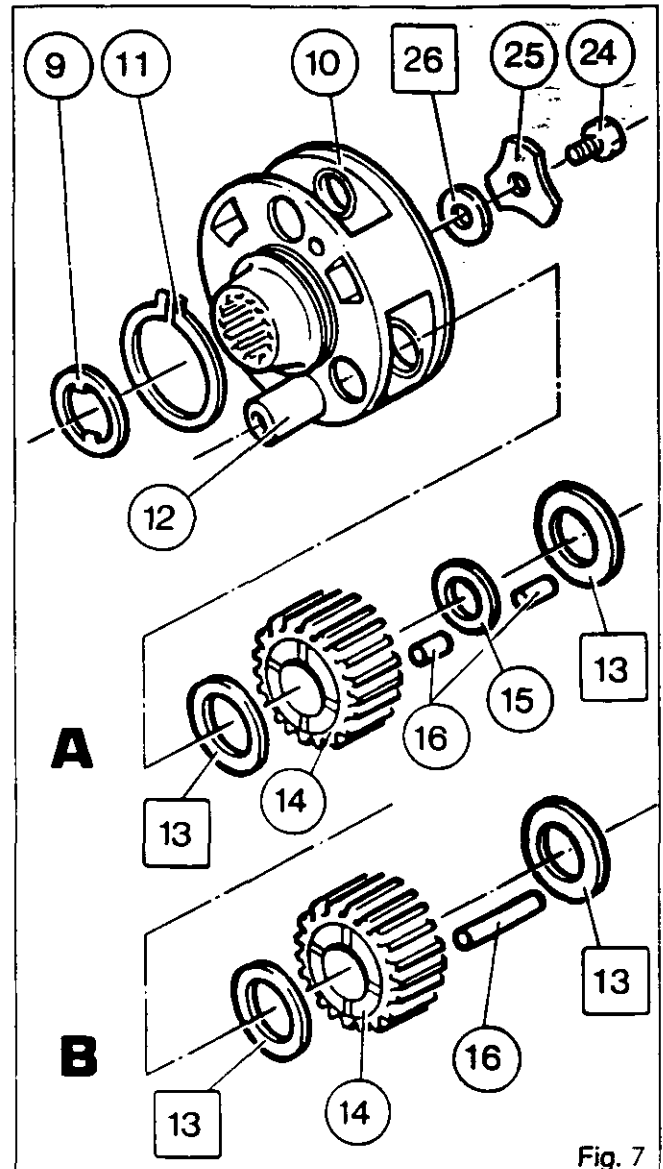
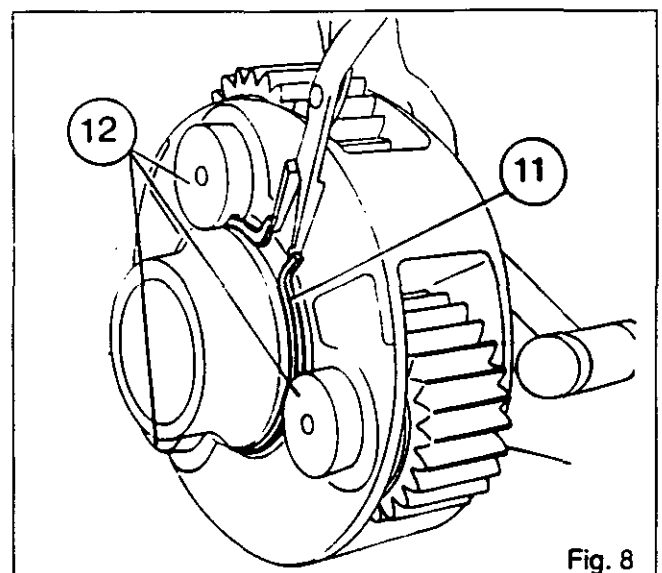
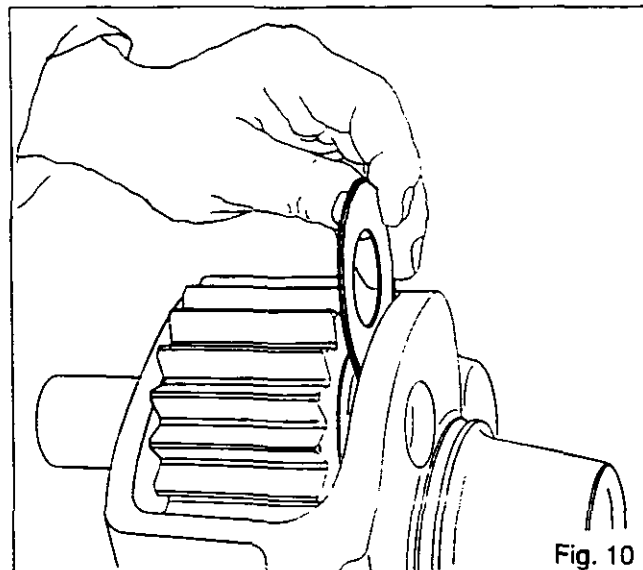

Fig. 7
Fig. 8
Fig. 10
2. Remove the bolt (24) (Fig. 7).
3. Remove the retaining washer (25) and the shim(s) [26] (Fig. 7).
4. Remove the planetary carrier assembly (10).
5. Open out the circlip (11) (Fig. 8).
6. Using a copper tipped mallet, tap lightly on the three pins (12) (Fig. 8).
7. Remove the three pins (12) and the circlip (11).
8. Remove the three planetary gears (14), the needle rollers (16), the spacers (15) (heavy duty planetary gear A) and the thrust washers [13].
9. Clean the planetary carrier (10), the pins (12) and the planetary gears (14). Check the condition of the parts.
10. Coat the needle rollers (16) with "Amber Technical" or an equivalent grease. Into each planetary gear (14) insert :
- Heavy duty planetary carrier (A) : two rows of needle rollers separated by a spacer (15) (Fig. 7).
- Normal duty planetary carrier (B) : one row of needle rollers (Fig. 7).
**Note: Each heavy duty planetary gear (A) has 42 needle rollers.**
**Each normal duty planetary gear (B) has 21 needle rollers.**
12. Position the planetary gears (14) and the medium thickness washers [13] on each side of the planetary gear.
13. Fit the three pins (12).
15. Pull out the three pins slightly and fit the shims [13] selected in procedure 14 (Fig.10).
16. Push in the three pins and fit the circlip (11).
17. Open out the circlip (11) (Fig.8).